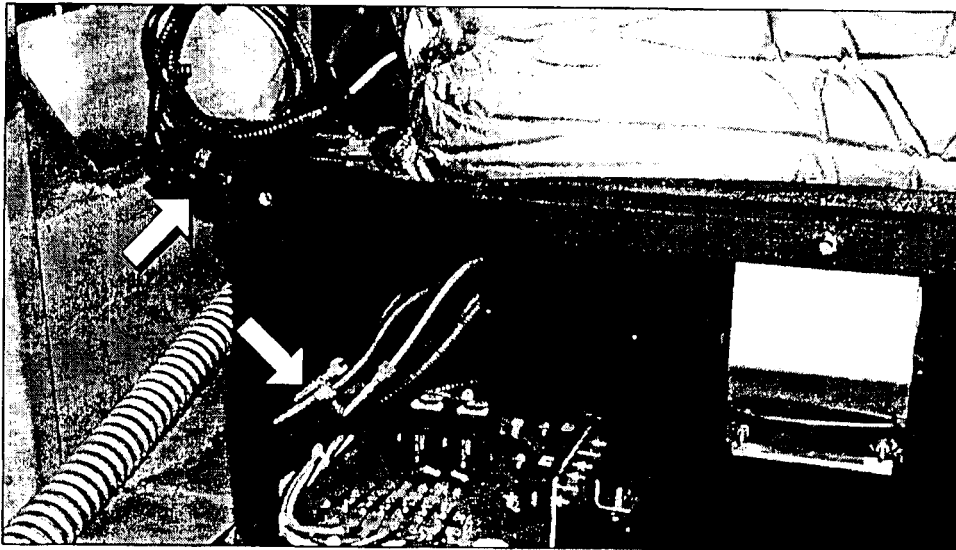

Figure 2.
5. Disconnect the harness (Figure 2). Using masking tape and a marker, identify the three wire lead locations on the packard plug, and the Pos and Neg. wires to ensure correct orientation on re-assembly. Using a pin pusher, carefully remove the three wire leads from the packard plug. Retain the packard plug.